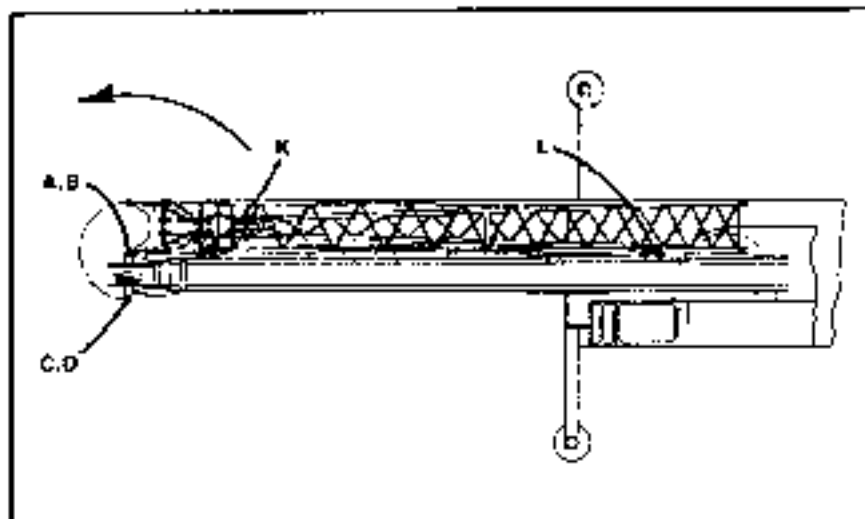

Fig. 4-41
- Step 3: Install pins and keepers at "A" and "B" to connect the jib to the boom head. Refer to Fig. 4-41.